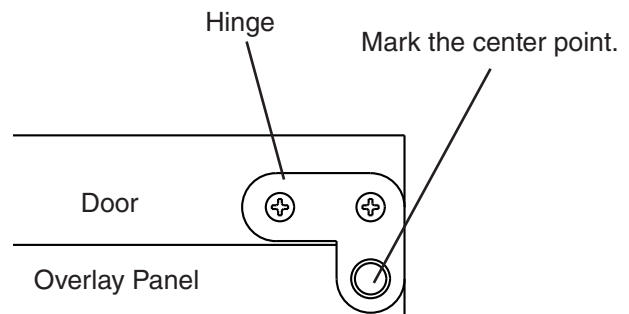

**Fig. 10**
- 8) Remove the gasket from the door. See Fig. 10.